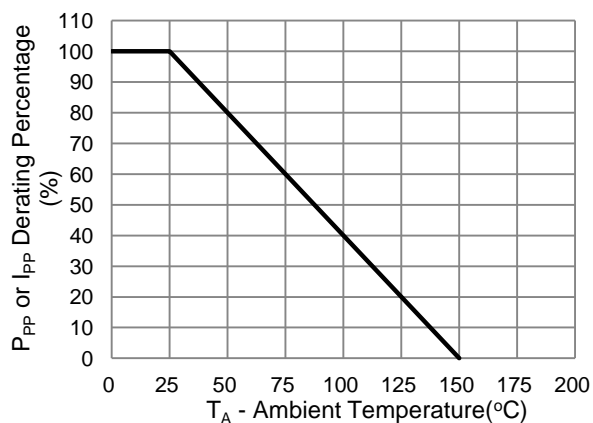
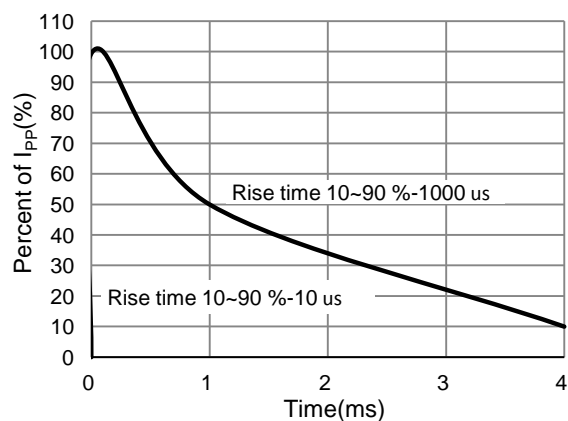

Fig.2 Derating Curve
Fig.3 Pulse Waveform
1. Non-repetitive current pulse, per Fig.3 and derated above  $T_A = 25^\circ\text{C}$  per Fig.2